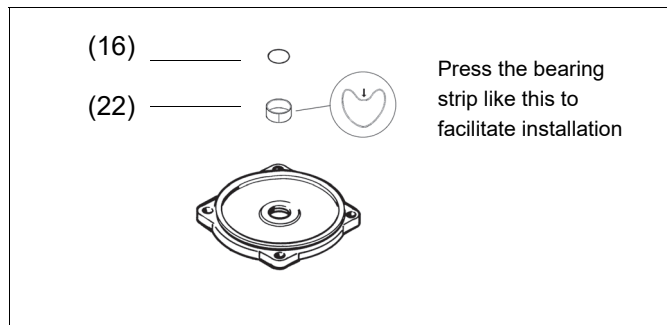

Fig. 5 Mounting the piston rod bearing and seal
- Remove the O-ring (16) and the bearing (22). Clean the seal space. Lubricate the seal space and the new O-ring with Unisilikon L250L or Molykote III. Install the new bearing and O-ring. See Figure 5.